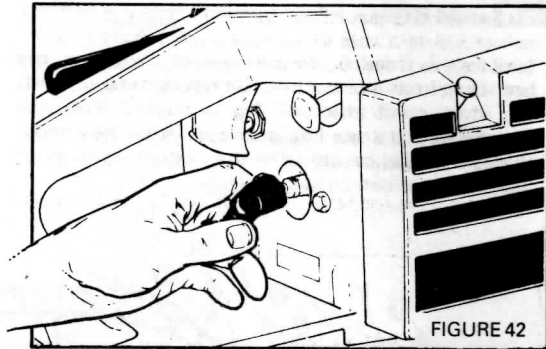

FIGURE 42
2. Disconnect the black rubber connector on end of the wire from the spark plug by twisting and pulling at the same time. (Figure 42).